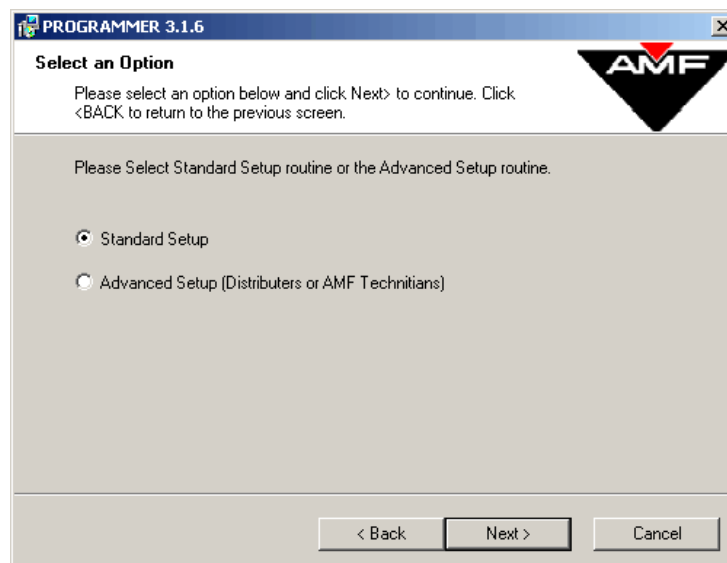

Figure 1-3
5. There are two different choices for installation as seen in **Figure 1-3**. For the purposes of this manual, the Standard Setup will be used. Make sure Standard Setup is selected and click the **<Next>** button. If using the Advanced Setup, select the radio button next to it and then click the **<Next>** button. The Advanced Setup requires the use of a specific password to allow the program to continue installation. If the password is not entered correctly after three attempts, the installation will end.